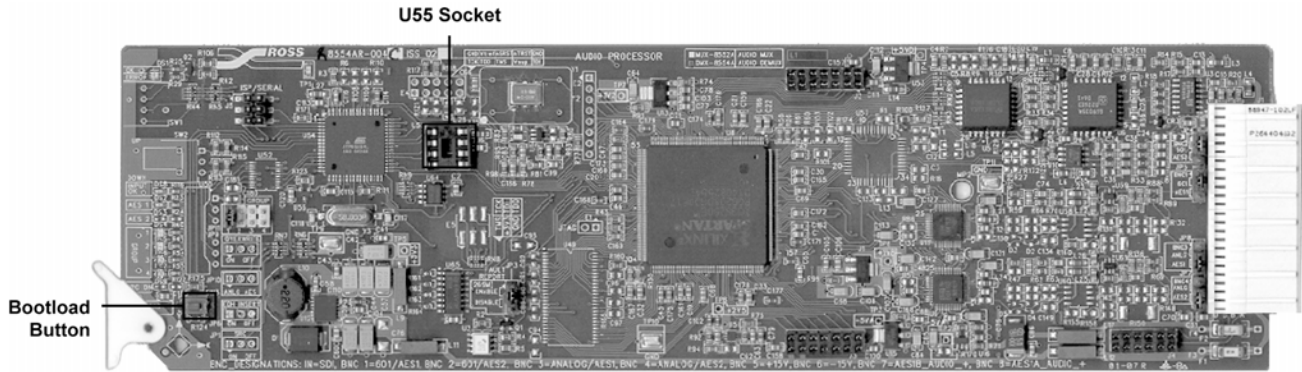

Figure 10 – DMX-8554A Upgrade Socket and Label Locations
1. With the card out of the frame, refer to Figure 10 and the card labeling to locate the **U55** socket.